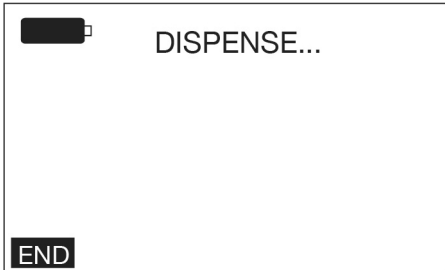

FIG. 15
- Select **ACTIVATE** and press the **ENTER** button. **DISPENSE** (as shown in FIG. 15) displays on the screen.